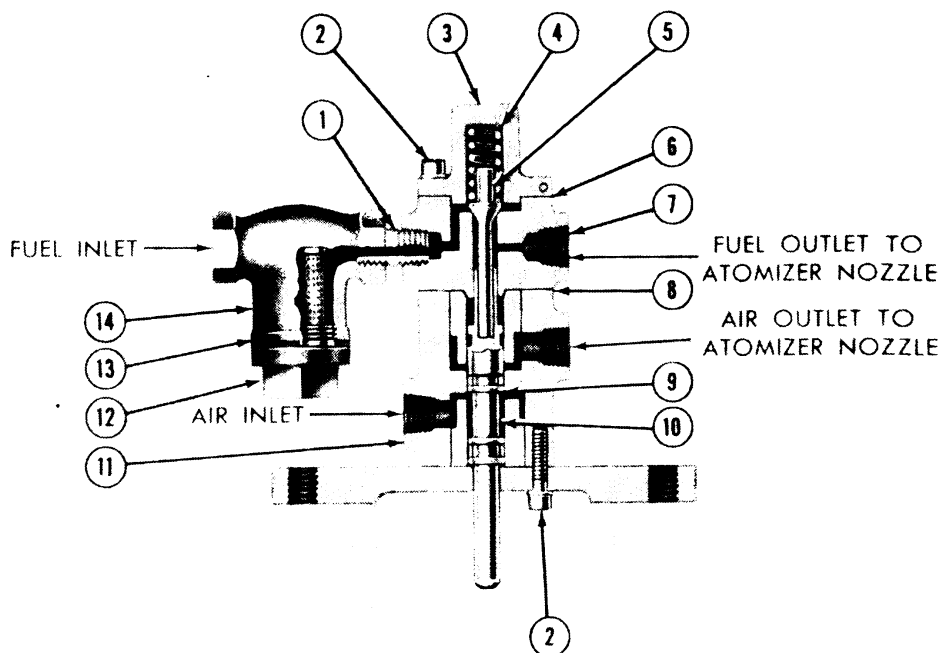

Figure 57—Atomizer valve (sectional view).
(1) The atomizer valve (figs. 57 and 58) supplies and controls flow of air and motor fuel to the atomizer nozzle. Adjacent parts are the atomizer air valve body (at rear) which is the same as the pilot valve body, and the atomizer fuel valve body (at front). The air valve body has an air inlet at the rear and an air outlet on the forward end. Construction is the same as for the pilot valve, with "O" rubber sealing rings on the air body piston. The piston has three "O" rubber sealing rings, the third being used to seal off the flow of atomizer fuel between the air and fuel bodies.
(2) The fuel valve body has inlet and outlet threaded openings. These ports are separated by a tapered valve machined as an integral part of the valve stem which seats in the body. The seat is integral with the valve body. The stem extends in both directions from the tapered valve. The forward end of the stem forms a guide for a piston spring. The rear extension of the stem passes through a central hole in the body casting, guiding the valve to its seat. The rear stem fits in a clearance hole drilled in the forward end of the air body piston. Forward movement of the piston
Legend for Figures 57 and 58